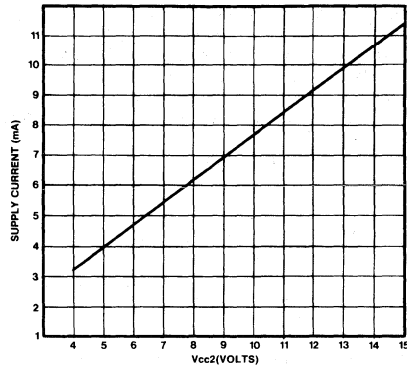

Fig.6 Supply current v. Vcc2 (Ip = 0)
- $V_{cc2} \text{ Diss}$  = dissipation obtained from graph (Fig.6)